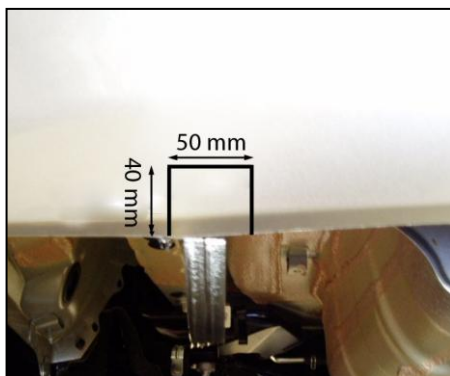

Figure 1 - Bumper cut for side arm
- e) Remove the panels on the rear bumper to access the bolts securing the bumper to the body on both driver & passenger sides as shown in figure 1.
- 12 Temporarily refit the rear bumper to the vehicle and mark the location of the towbar side arms. Cut the bumper at two places as shown in figures 1. Allow for 3-5mm on either side of the side arms. NOTE: Always mark location of towbar side arms from inside of bumper.